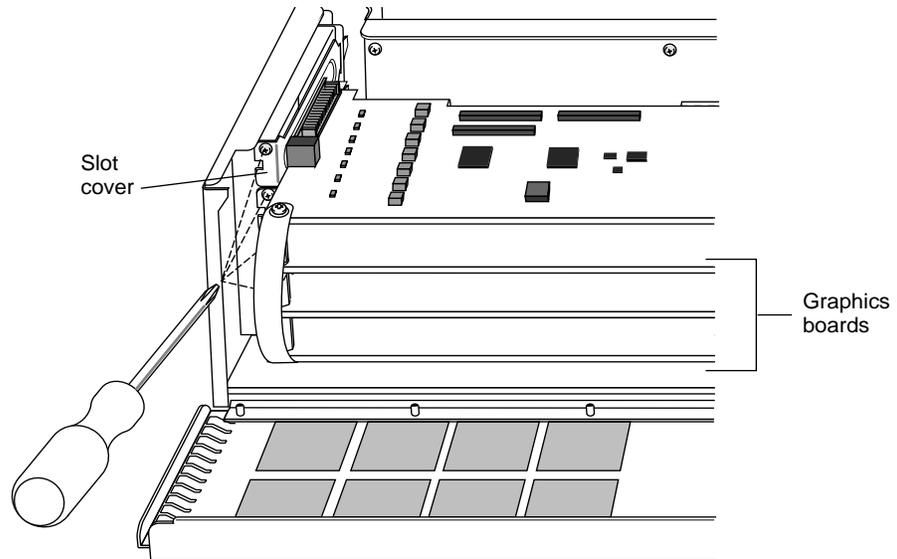

Figure 1-36 Securing the Board Set to the Chassis
2. Insert and tighten the screws that hold the board set to the chassis. The screw openings are on the metal extension on the left side of each board. See Figure 1-36.